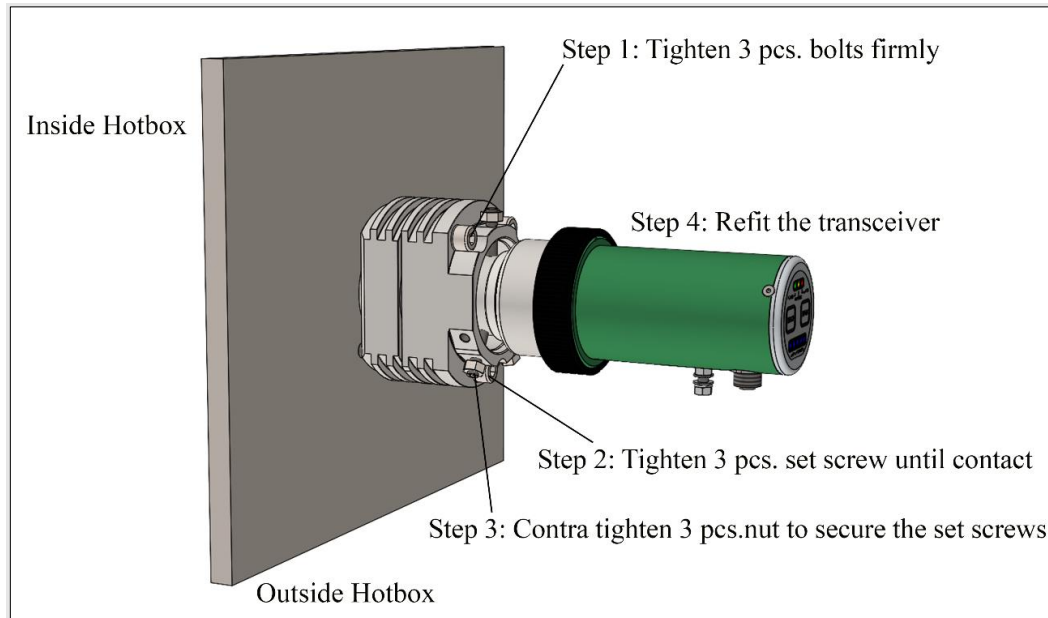

Figure 5-5: Refit the Transceiver
- Secure the alignment position and refit the transceiver – Figure 5-5.